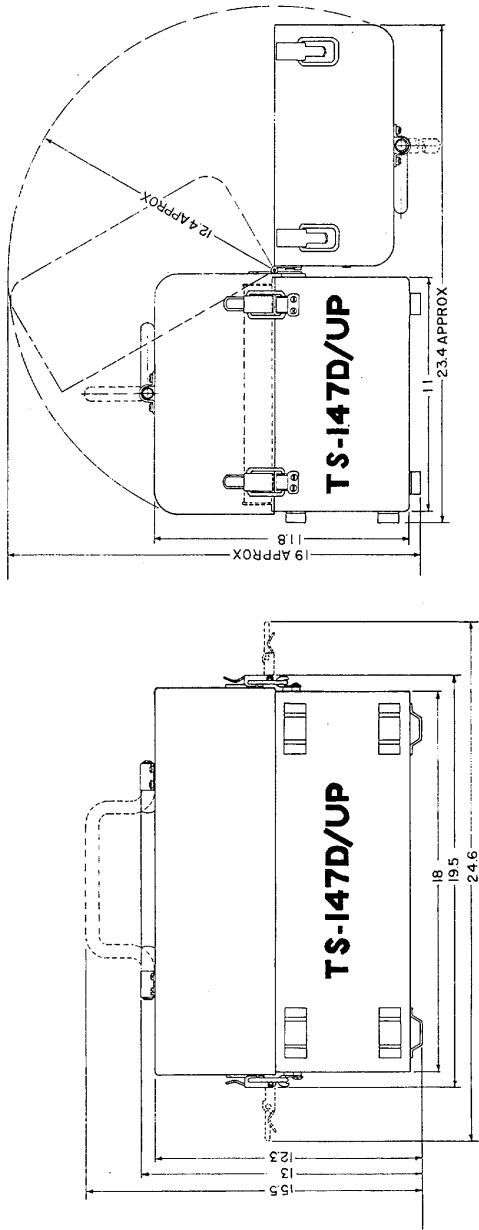

Figure 3-3. Test Set TS-147D/UP Outline Dimensional Drawing
(1) Test Set TS-147D/UP is a portable instrument that requires no permanent location. It should be placed in such a position that the controls of the equipment being tested and those of the test set can be adjusted simultaneously. Also, the patterns on the oscilloscope should be visible. The temperature rise is such that the ventilation ports above and below the front panel must be kept unobstructed.
(2) If necessary, the test set can be strapped to a flat top bench by any convenient means, provided that at least 6 in. space on the top, rear, and each side is left clear for ventilation. The mounting feet insure adequate space on the bottom. With the cover removed, the space required is as follows: height 17.8 in., width 31.5 in., depth 14.0 in.
d. OUTLINE DIMENSIONS. --Figure 3-3 gives the outline dimensions of the test set.